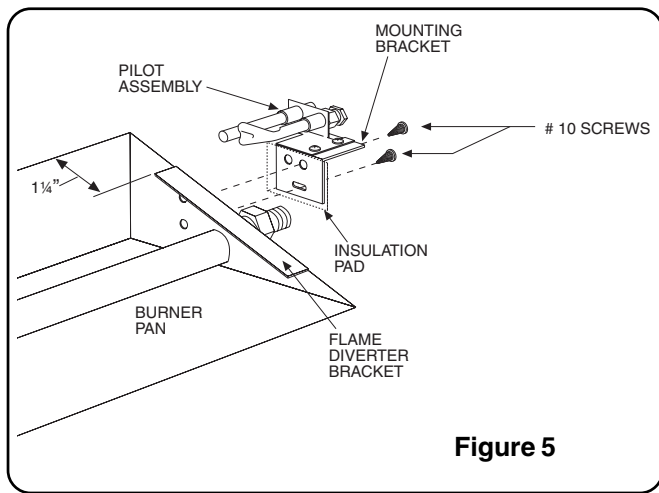

Figure 5
- a. Attach the pilot assembly mounting bracket (Item 8) to the pilot assembly (Item 4) with #10 screws (Item 7) (Figure 5 - Note: bracket, insulation pad and pilot assembly are shown attached).